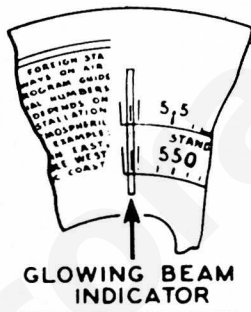

Fig. 6—Dial Calibration
2. Loosen the clamp of dial, then turn the dial—being careful that position of tuning condenser is not disturbed—until the glowing indicator is centered on the middle index line at the low frequency end of Range One scale. See Fig. 6. Tighten the dial clamp in this position.